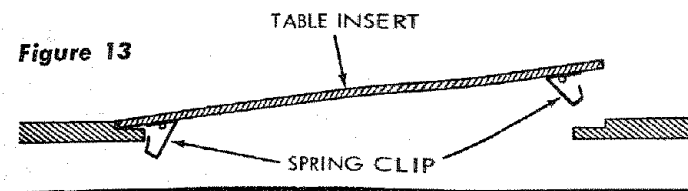

Figure 13
- a. Install the table insert by sliding it carefully into position and pressing down firmly at both ends until the spring clips on underside of insert "snap" into position. (See figure 13.)